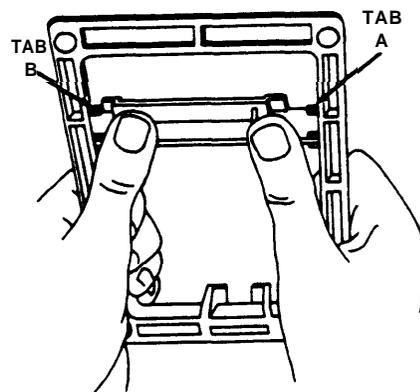

Figure 4
5. Lift base and push wall support through slots until it clicks into place (see Figure 4).